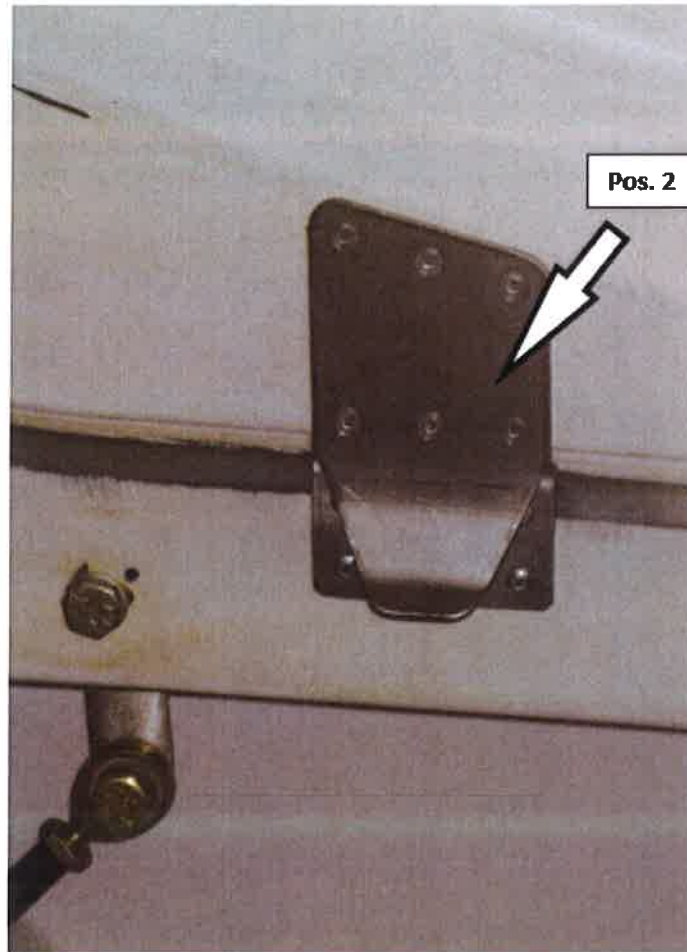

Fig. 5 - Fixing of the guiding metal plate on the movable frame (view of the left side of the cockpit)
- 5) Degrease the respective contact areas of the guiding metal plate and on the left side of the movable frame by using cleaning solution (alcohol), clean the degreased areas by paper towel and let them dry. Apply the polyurethane adhesive sealant to the corresponding contact surface of the guiding metal plate, place it on the left side of the movable frame and attach it to the frame by 6 rivets \varnothing 3.2 mm (see Fig. 5). Remove overflows of the polyurethane adhesive sealant.